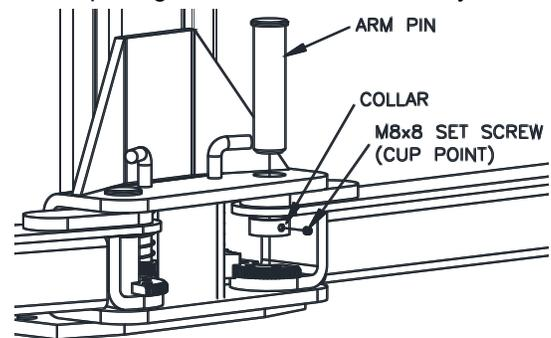

Fig. 11 –Arm Install
34) Lubricate the arm pin or carriage arm pin hole with “anti-seize” and install the arms as shown in Fig 11. Once the set screw is finger tight against the arm pin, tighten 1/4 turn with hex key.